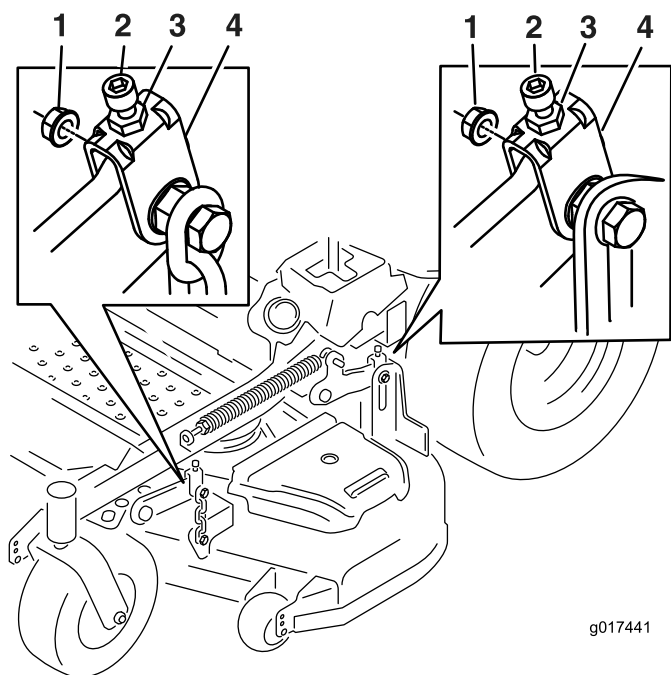

Figure 71
10. If needed, loosen the whizlock nut on the side of the yoke and the jam nut on top. Fine tune the screw adjuster by turning it to get 3 inch (7.6 mm) height (see Figure 71).
16. Fine tune the screw adjuster by turning it to get 3-1/4 inches (8.3 mm) height (Figure 71).